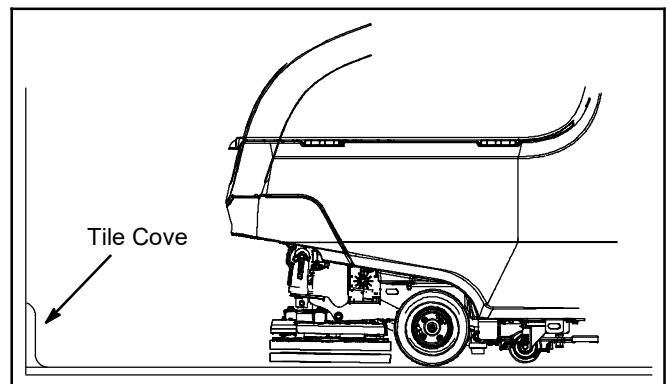

FIG. 82
8. Orbital Scrub Head Model - Use caution when working near the tile cove (Figure 82) and floor mounted fixtures such as pedestal sinks and other breakable items. Keep the metal scrub head edge away to avoid possible damage.